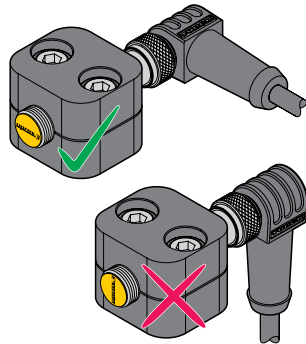

Fig. 10: Aligning the sensor in the mounting bracket
- Align the uprox marking on the front cap of the sensor horizontally in relation to the half-shell clamp (see Fig. 10).